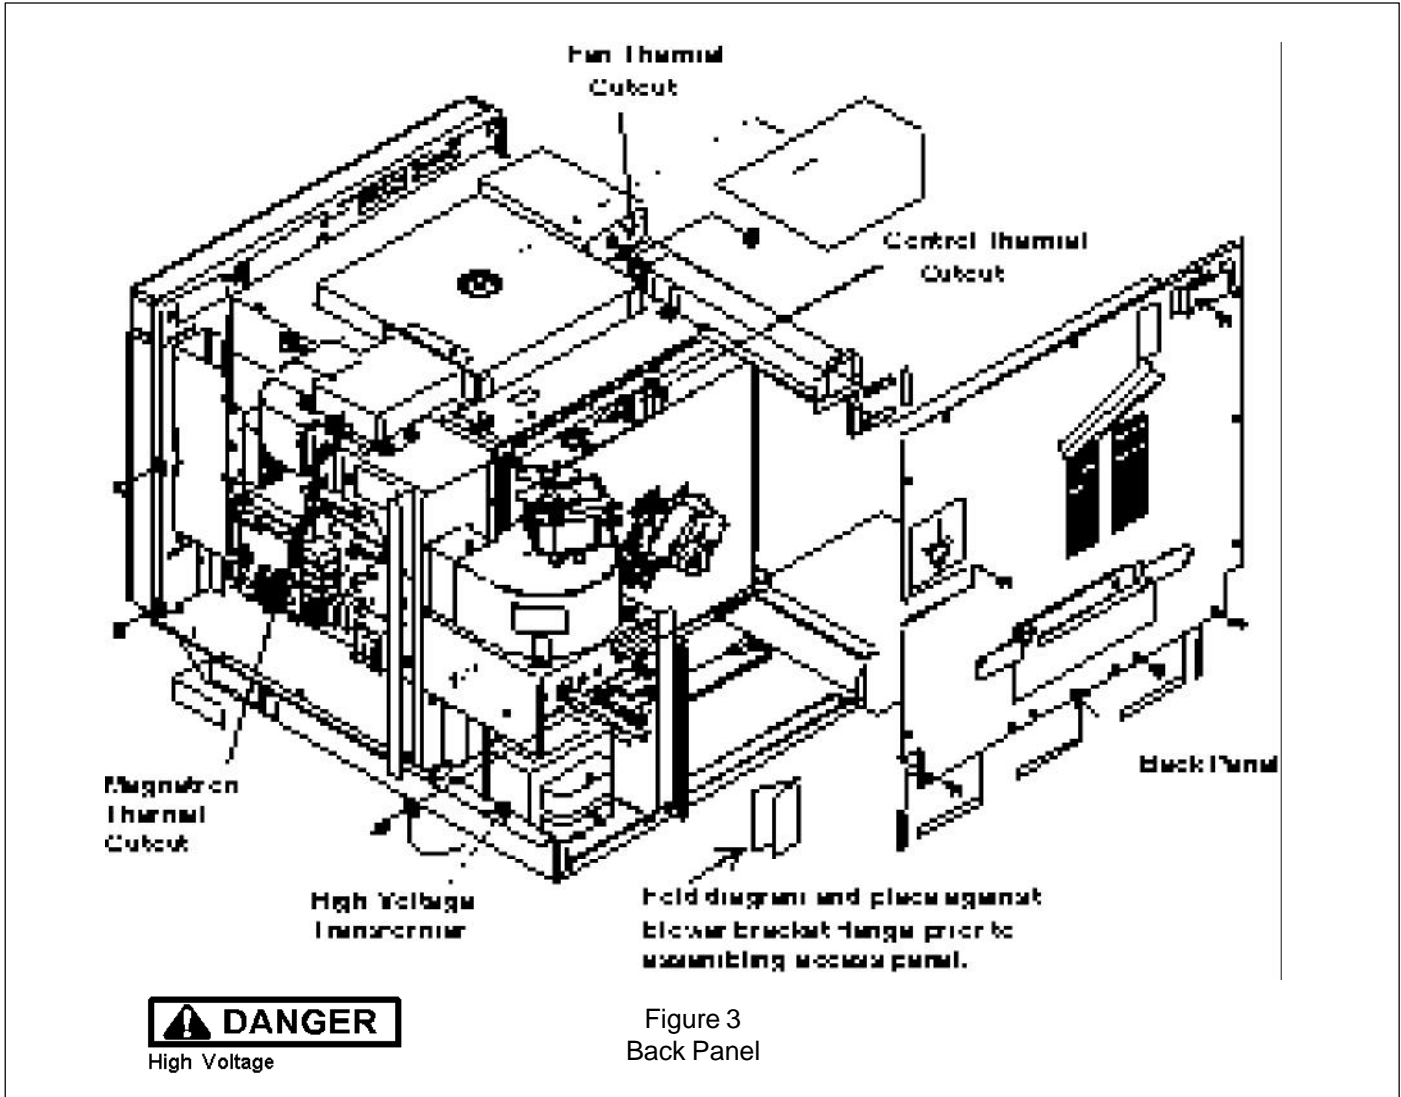

Figure 3
1. See "Component Location" Figure 3, for location.
1. See “Component Location” Figure 3, for location.